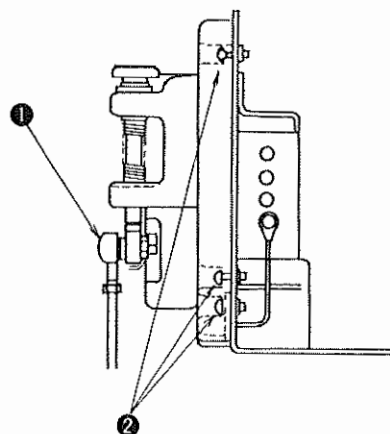

Fig. 5-4
- 4) Remove the pedal connecting bar (Fig. 5-4 ①) from the pedal lever (using two hexagon spanners for M10).
- 5) Remove the four screws attaching the pedal sensor (Fig. 5-4 ②), then remove the pedal sensor set from the PSC box.